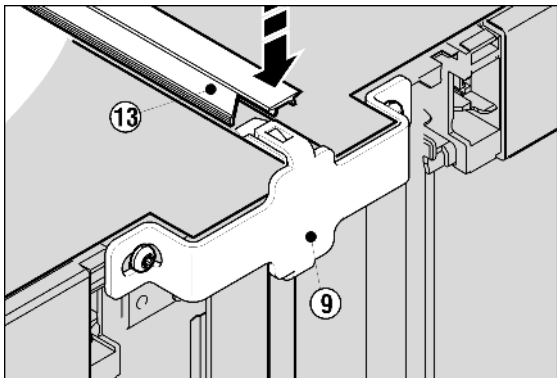

Fig. 8
- ▶ On the top, press the short strip Fig. 8 (13) into the gap. Pay attention that the cutaway of the strip points in the direction of the front of the appliances. The strip has to end flush with the top of the appliance at the front edge.